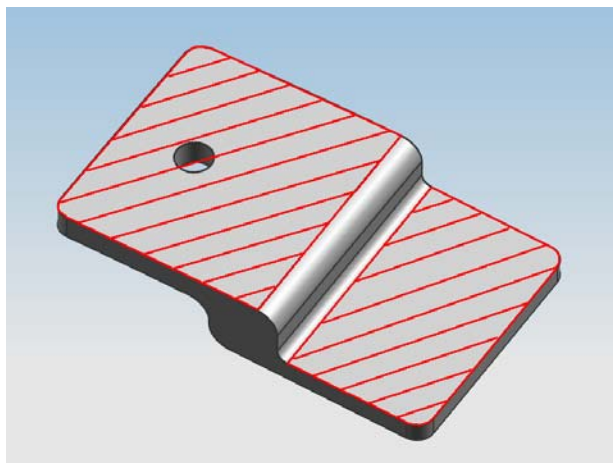

Figure 5-2: Surfaces of Clip to be Covered with Rubber
1. Cut anti-chafe rubber with adhesive backing (P/N 440S) to fit on the surfaces of the pilot side upper safety clip (P/N 100-210-7110-01), as shown in **Figure 5-2**. Ensure the rubber covers the entirety of each face, starting at the radius of the curve.